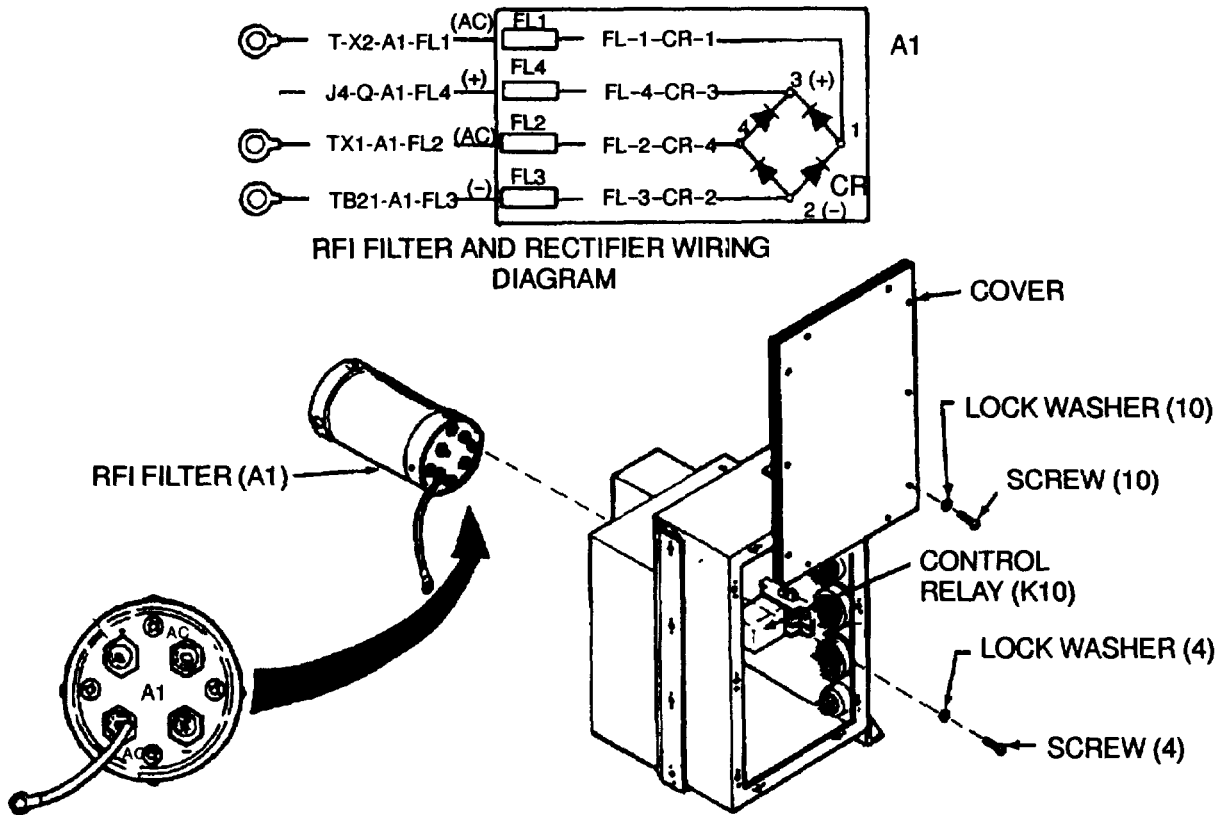

Figure 4-65. RFI Filter (A1)
- (4) Place gasket into end cap.
- (5) Connect wire leads using tag and wiring diagram. (See Figure 4-65.)
- (6) Secure end cap to tube with four screws and washers.